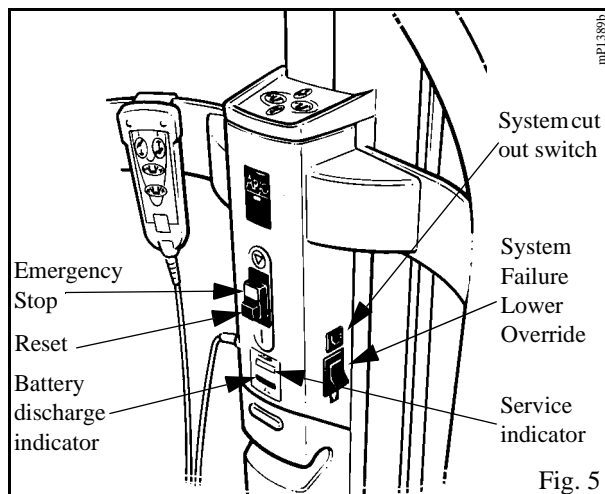

Fig. 5
**Emergency Stop Button (Red):-** (See fig. 5) If, in an emergency, you have to immediately stop any powered movement, (other than by releasing pressure on the control handset button or dual switch panel button), press the "emergency stop button", situated on the rear of the mast.
**Reset button (green):-** (See fig. 5) Adjacent to the emergency stop button. It is used to reset the 'power on' condition, once the emergency stop button has been operated, also used to reset if the automatic overload fuse has operated, indicated by the reset button projecting outwards slightly. If the fuse has operated and once reset, operates again, withdraw the lifter from use and contact ARJO Service department or their appointed distributor.
**System Failure Lower Override:-** (See fig. 5) This can be used in the event of main control failure. In the unlikely event that the control handset or dual switch panel fails to operate the lifter, with a patient still supported by the sling or stretcher, provision for lowering has been made, using the “System Failure Lower Override switch”, situated on the right hand side of the controls console, a green and white identification label is positioned near the switch, for quick and easy recognition. If pressure is released from the switch during use, lowering will stop.
**System Cut-Out Switch:-** (See fig. 5) If the lifter functions fail to operate when pressing the buttons on the control handset or dual switch panel.
Ensure the green reset button (situated on the control console below the dual control panel) is pressed in (see fig. 5)